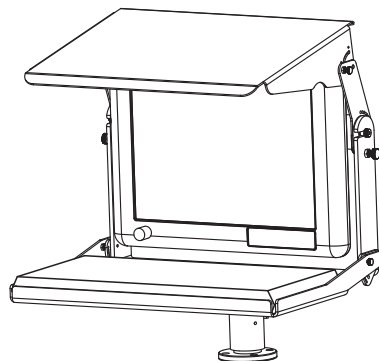

Figure 4.10 Complete yoke assembly with shield and keyboard tray
8. Once secured, set the plunger depth to a retracted nose clearance gap of .03"-.05". Tighten each jam nut to 30in-lb. See Figure 4.10.